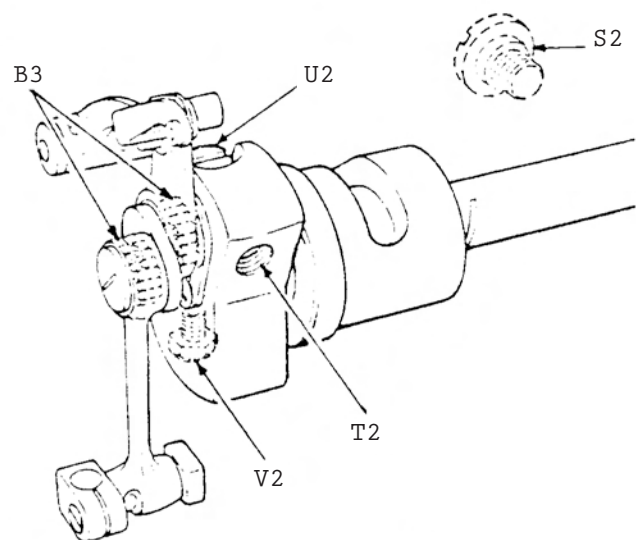

Fig. 22
1. Remove face plate and arm hole plug S2, Fig. 22 from machine.
3. Turn machine pulley as required to reach screw T2, Fig. 22, in needle bar crank through hole left by removal of plug S2, Loosen set screw T2.
4. Using wrench 545945 (through same hole) and turning machine pulley as required, loosen the large hexagon head clamping screw U2, Fig. 22 on needle bar crank.
CAUTION: DO NOT DISTURB the smaller hexagon head position screw V2, Fig. 22 which holds the needle bar crank at its correct position on the horizontal arm shaft.
6. Turn machine pulley as required to make set screw T2 in needle bar crank accessible through hole at S2, Fig. 22 in rear of machine head.